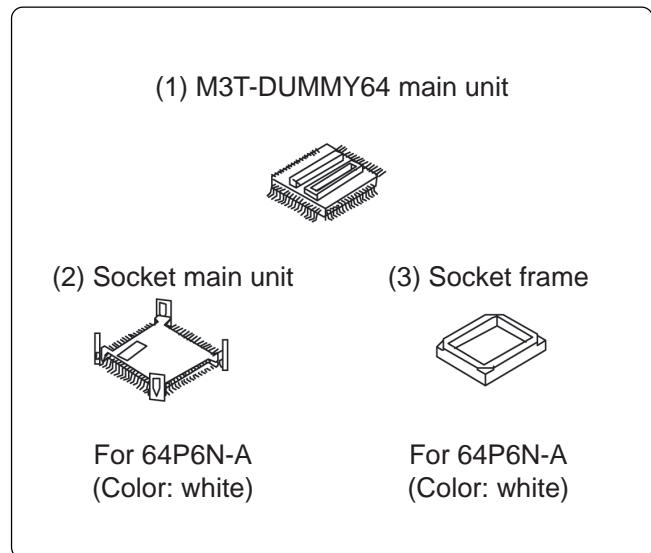

Figure 1 Package components of the M3T-DUMMY64
2. Package Components (see Figure 1)